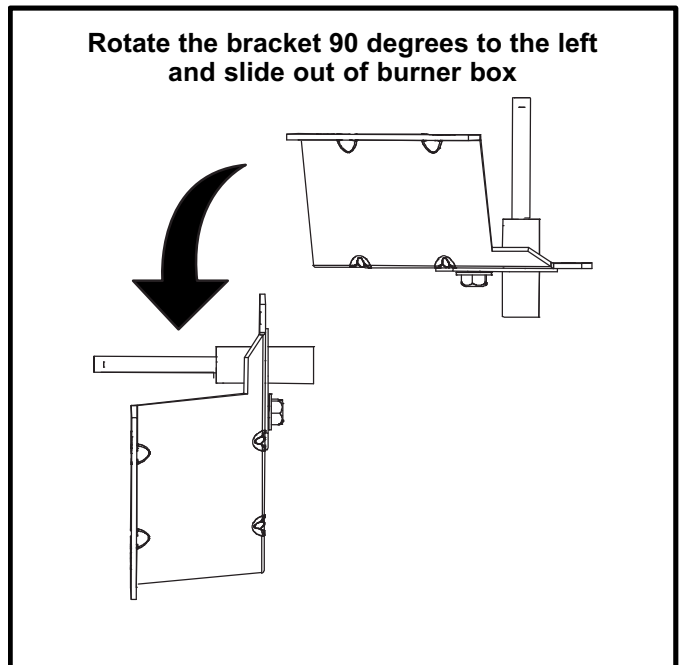

FIGURE 2
- 19 - Rotate the igniter bracket 90° to the left and slide it out. See figure 2.